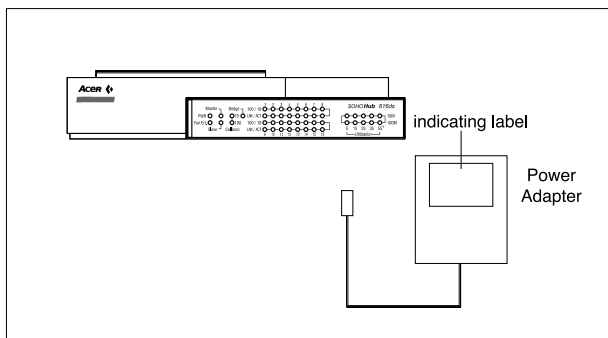

Figure 2-3 Connect to the power adapter
2.1.3 Verify it's a 5V,3A power adapter by looking at the indicating label. If the adapter is correct, please stretch the cable and plug the cord into the power jack of the hub, as shown in Figure 2-3.